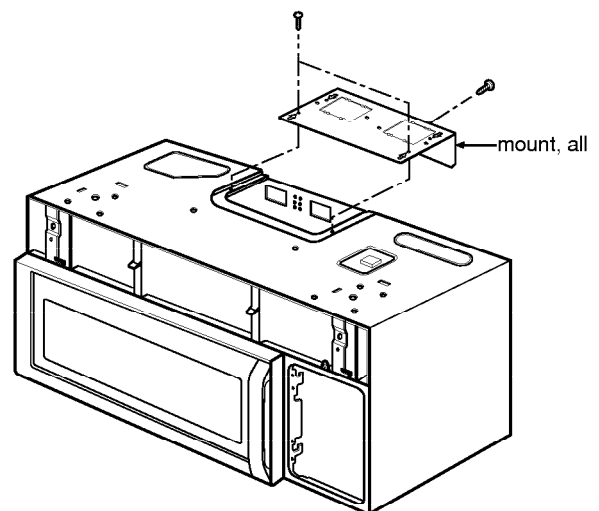

Figure 19
- (3) Remove the mount all from the out case by removing two screws securing it to the out case and one screw securing it to the ventilation motor ASS'Y and cavity. (Figure 19)